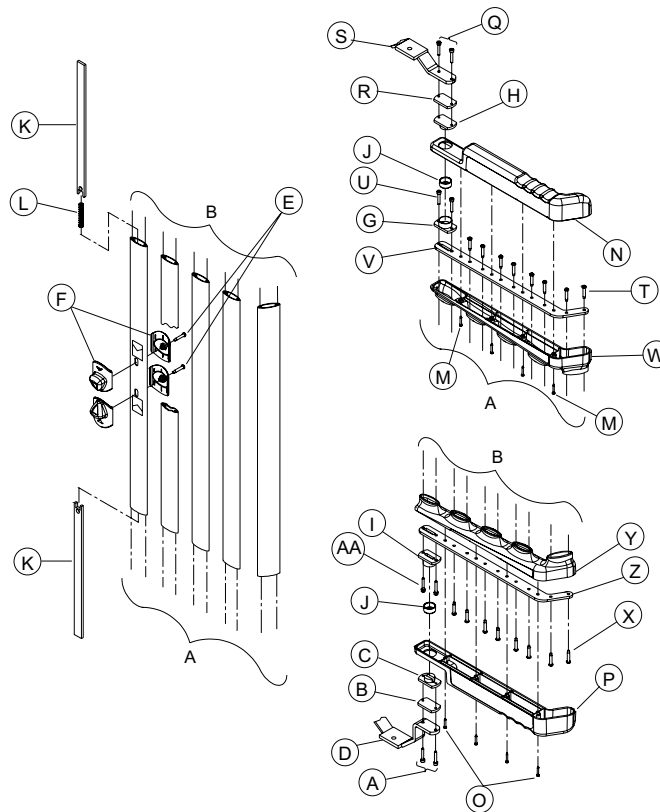

Figure 32 – Access door replacement
5. Using a 5/32" Allen wrench, remove the two Allen screws (A) that secure the spacer (B) and the hinge (C) of the two access doors to the lower structural member (D) (Figure 32). Save all parts.
6. Move the lower end of the access door to the left or right and disengage it from the upper hinge (H) (Figure 32). Remove and save both access doors. Save the spacers and hinges.
5. Using a 5/32" Allen wrench, remove the two Allen screws (A) that secure the spacer (B) and the bottom half of the lower hinge mechanism (C) to the access door (Figure 32). Save the spacer, hinge mechanism, and screws.
3. Using a #1 Phillips screwdriver, remove the four screws (M) that secure the top half of the upper cover (N) to the bottom half of the upper cover (W) (Figure 32). Save the screws.
5. Using a #2 Phillips screwdriver, remove the eight screws (T) that secure the upper end of the posts to the upper structural member (V) (Figure 32). Save the screws.
6. Using a 5/32" Allen wrench, remove the two Allen screws (U) that secure the hinge (G) and the last post to the upper structural member (V) (Figure 32). Remove and discard the upper cover.
3. Using a #1 Phillips screwdriver, remove the four screws (O) that secure the bottom half of the lower cover (P) to the top half of the lower cover (Y) (Figure 32). Save the screws.
5. Using a #2 Phillips screwdriver, remove the eight screws (X) that secure the lower end of the posts to the lower structural member (Z) (Figure 32). Save the screws.
6. Using a 5/32" Allen wrench, remove the two Allen screws (A) that secure the hinge (I) and the last post to the lower structural member (Z) (Figure 32). Remove and discard the lower cover. Save the screws.
4. Using a #1 Phillips screwdriver, remove the four screws (O) that secure the bottom half of the lower cover (P) to the top half of the lower cover (Y) (Figure 32). Save the screws.
6. Using a 5/32" Allen wrench, remove the two Allen screws (A) that secure the top half of the lower hinge mechanism (I) to the siderail lower structural member (Figure 32). Discard the halves of the lower hinge mechanism.
8. Using a #1 Phillips screwdriver, remove the four screws (M) that secure the top half of the upper cover (N) to the bottom half of the upper cover (W) (Figure 32). Save the screws.
10. Using a 5/32" Allen wrench, remove the two Allen screws (U) that secure the bottom half of the upper hinge mechanism (G) to the siderail upper structural member (Figure 32). Save the screws.
11. Using a 5/32" Allen wrench, remove the two Allen screws (Q) that secure the spacer (R) and the top half of the upper hinge mechanism (H) to the siderail upper structural member (S) (Figure 32). Discard the upper hinge mechanism. Save the spacer and screws.
4. Using a #2 Phillips screwdriver, remove the two screws (E) from the release knob (F) (Figure 32). Discard the release knob. Save the screws.
5. Using a #2 Phillips screwdriver, remove the eight screws (T) that secure the upper structural member (V) to the four posts (Figure 32). Save the screws.
6. Using a 5/32" Allen wrench, remove the two Allen screws (G) that secure the hinge and structural member to the last post (Figure 32). Save the screws.
8. Using a #2 Phillips screwdriver, remove the two screws (E) from the release knob (F). Remove the two locking bars (K) and compression spring (L) from the post (Figure 32). Discard the locking bars and compression spring. Save the screws.